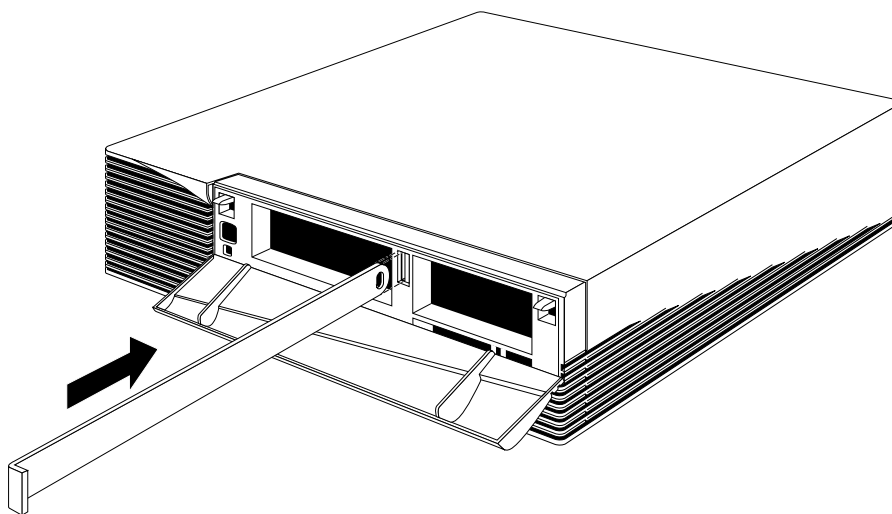

Figure 2-37 Installing the Lockbar
2. Place the straight end of the lockbar into the opening in between the disk drive slots in the front of the chassis, and push the lockbar all the way through the system, as shown in Figure 2-37.